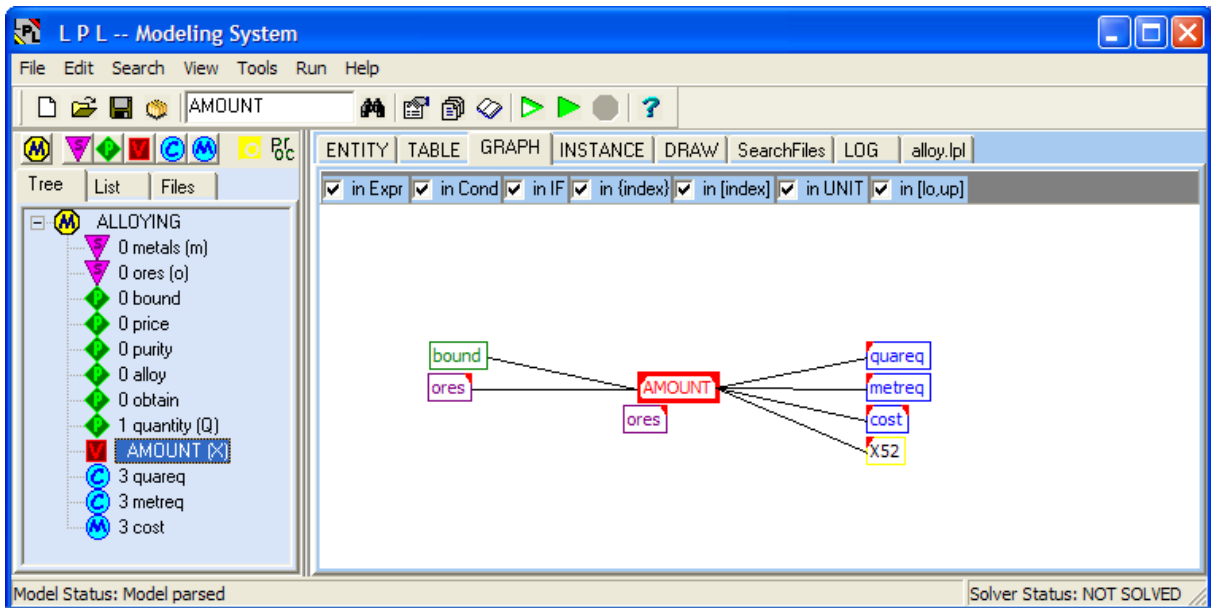

Figure 18: The Dependencies of "AMOUNT"
- Click on tab **GRAPH**. Within the **Tree** click on entry **AMOUNT (X)**. The graph as displayed in Figure 18 appears.